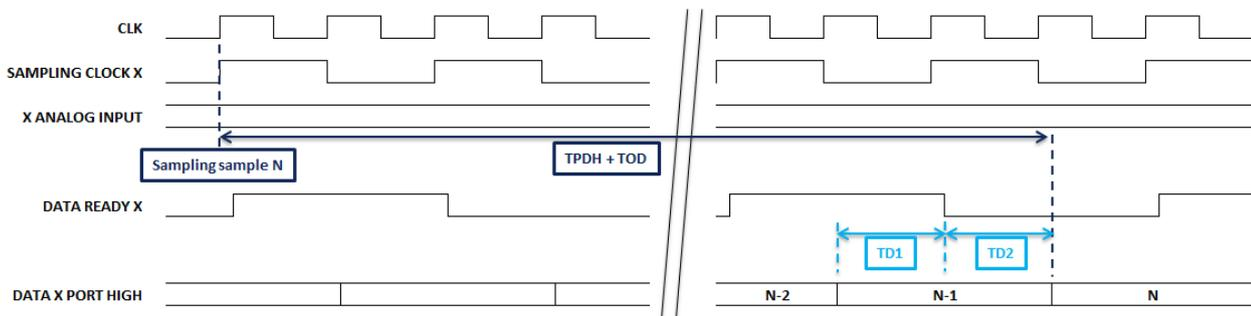

Figure 3: Timing diagram in DEMUX 1:1
3. Refer to timing diagrams in Figure 3 and 4
For both figures 3 and 4, X represents either channel A or B. If channel A and B are interleaved, the internal sampling clocks of channel A and B are in opposition and their output data and data ready are delayed by 1 external CLK cycle.